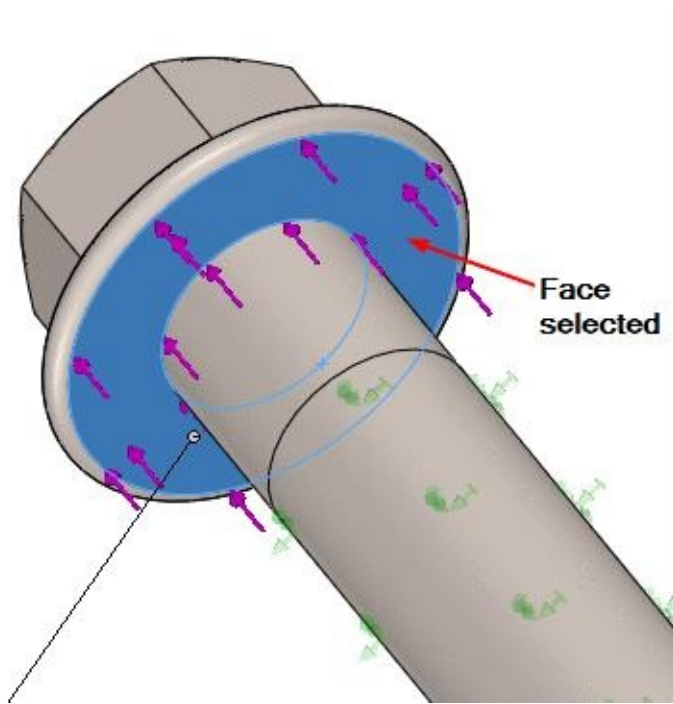

Figure-17. Face selected for applying force
- Select the flat face of the bolt as shown in Figure-17.